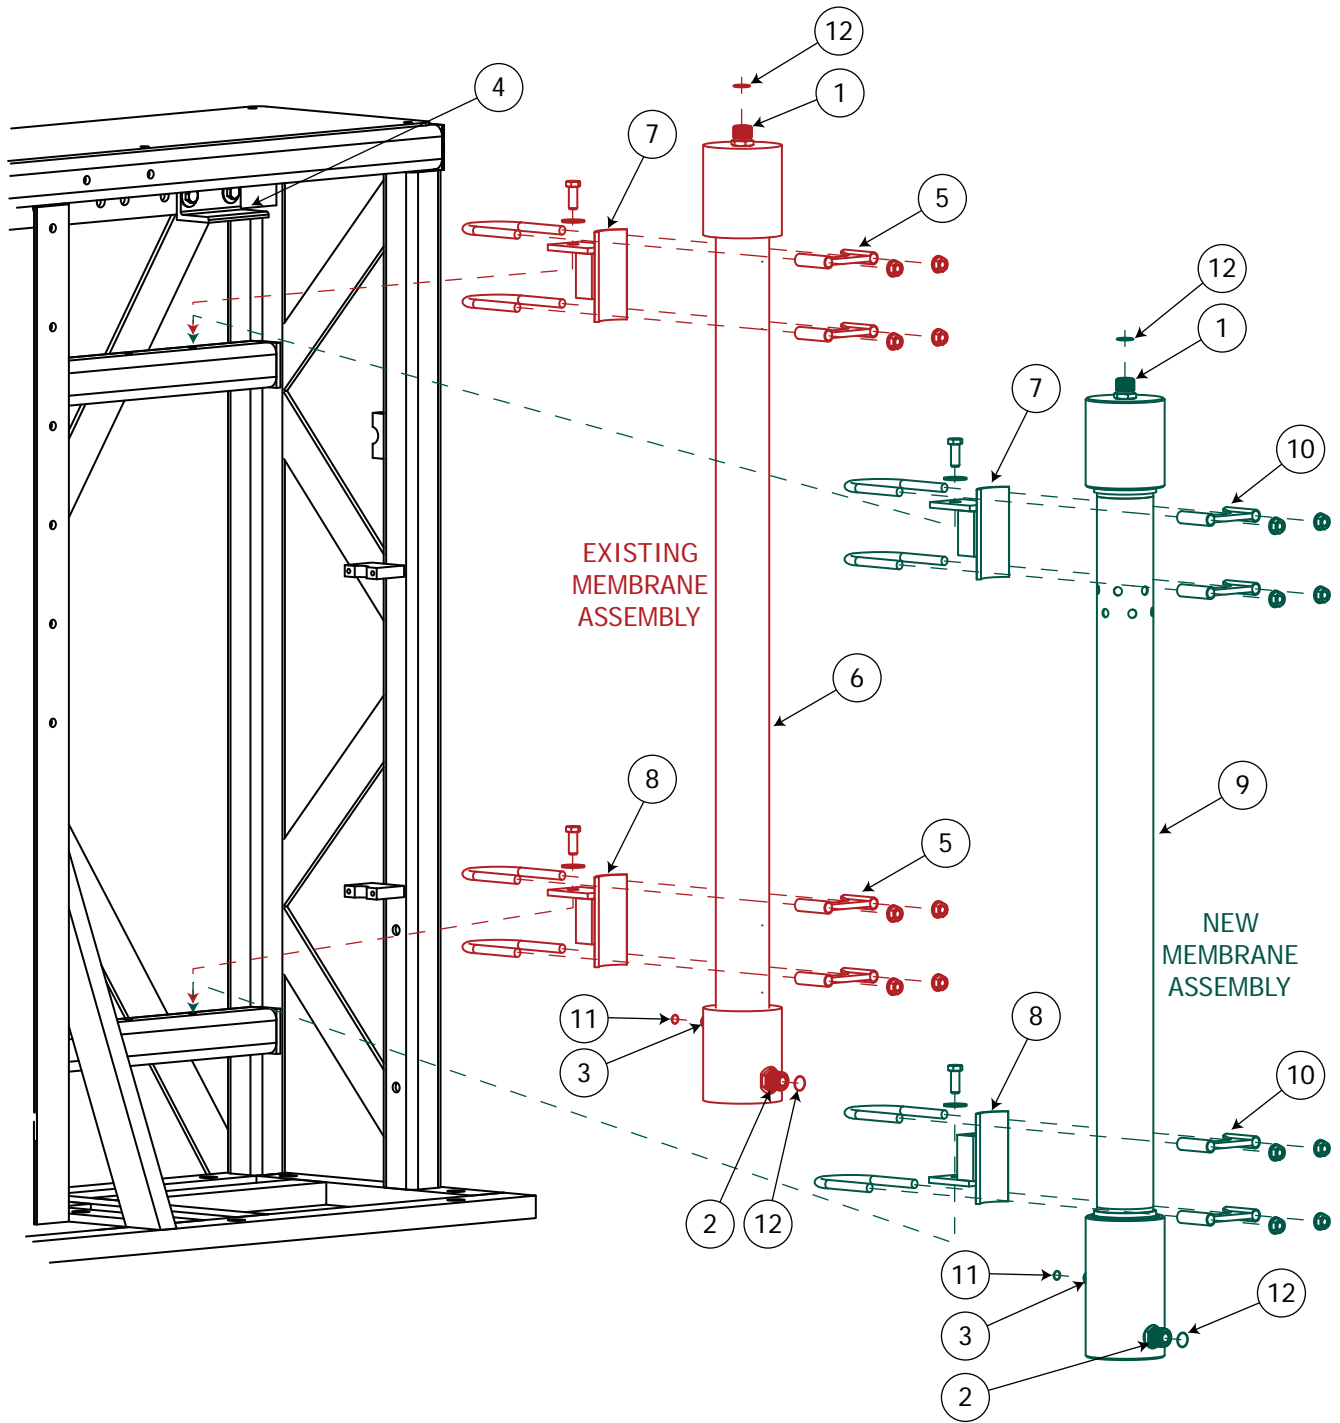

Figure 1. Membrane Element Replacement
Existing membrane components are shown in red in Figure 1.
- a. Disconnect the membrane inlet fitting (Figure 1, 1) from the inlet manifold.
- b. Disconnect the membrane outlet fitting (2) from the outlet manifold.
- c. Disconnect the membrane purge fitting (3) from the purge manifold.
- d. Loosen the hold-down clamp (4).
- e. Remove the clamps (5) securing the membrane assembly (6) to its mounting saddles (7) and (8). Remove the membrane assembly.
Replacement membrane components are shown in green in Figure 1.